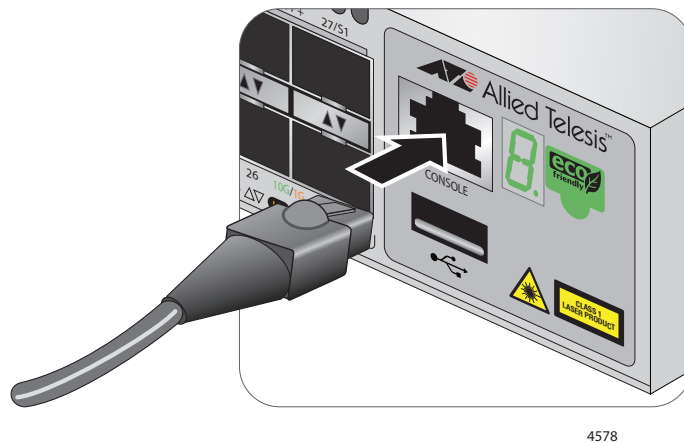

Figure 49. Connecting the Management Cable to the Console Port
1. Connect the RJ-45 connector of the management cable to the console port on the front panel of any switch in the stack. Refer to Figure 49.